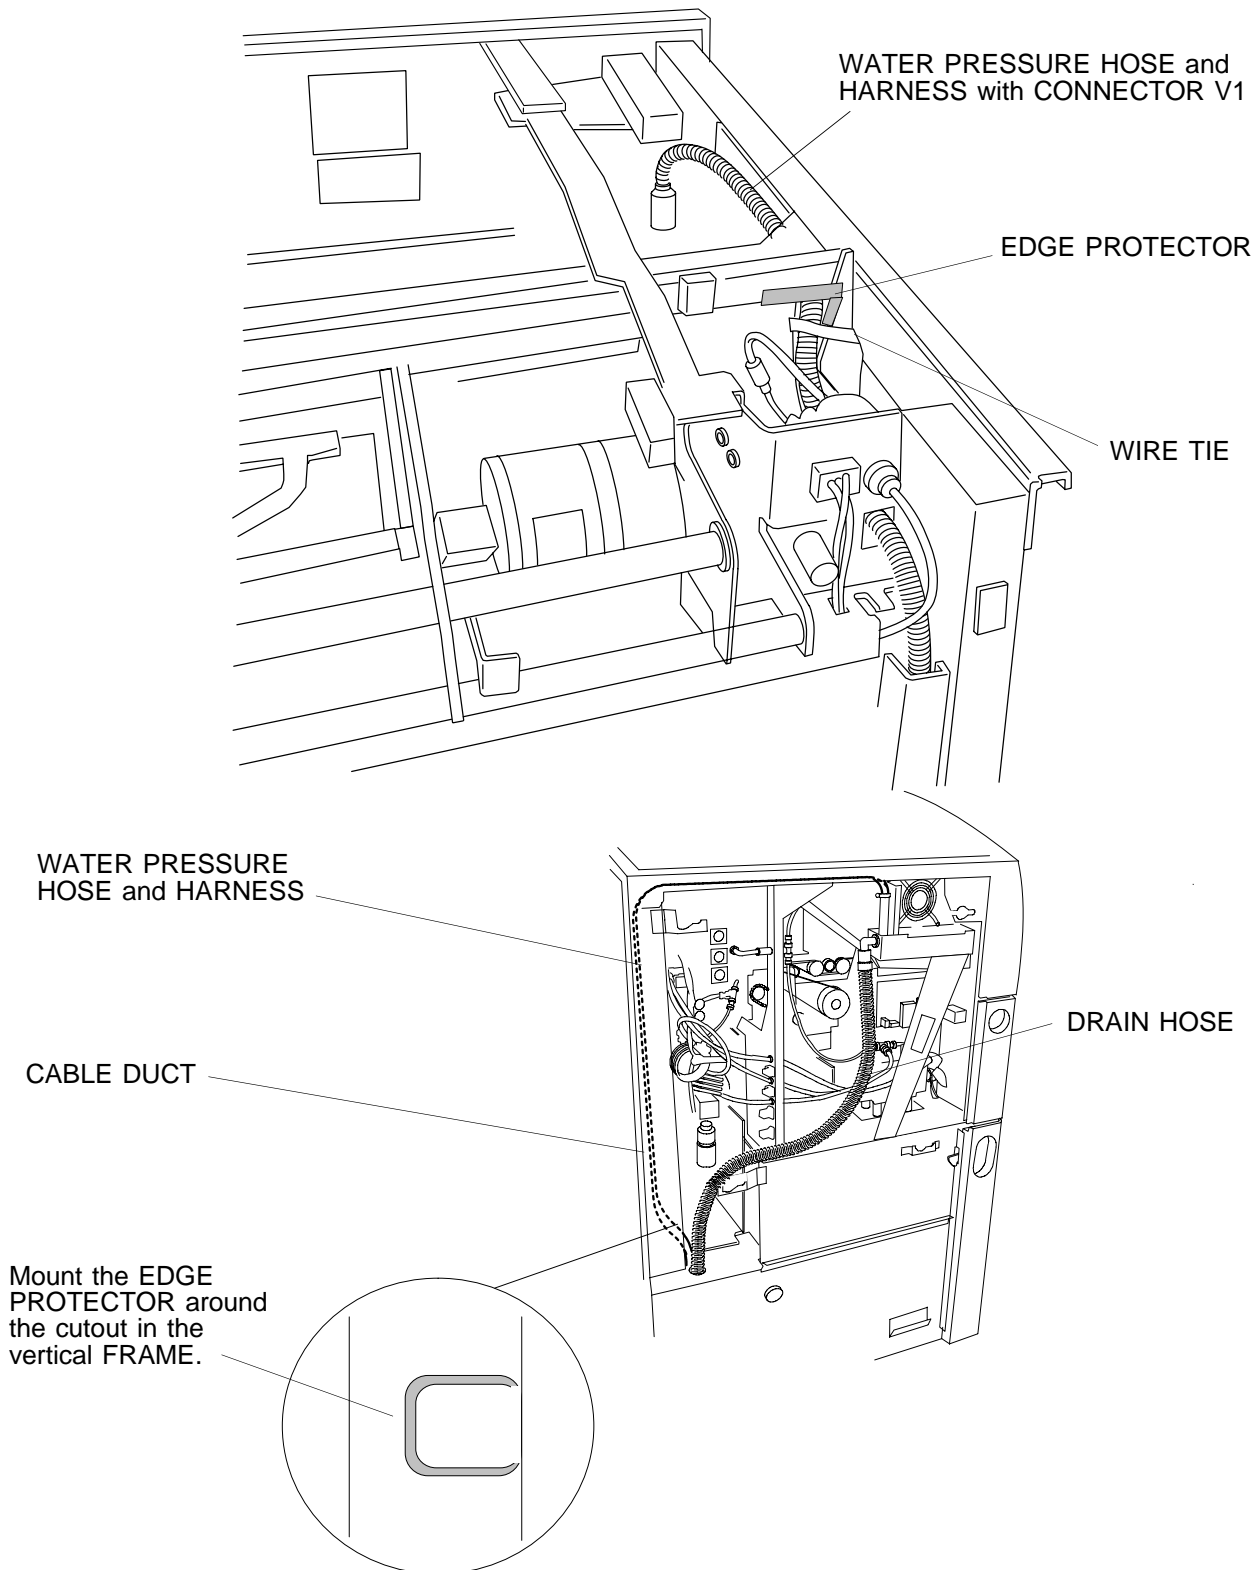

figure 3-9
21. Connect the DRAIN HOSE to the HUMIDIFIER and secure it with a HOSE CLAMP. See figure 3-9 on the previous page.
22. The RESISTOR for the WATER VALVE V1 and the 2 wires (red and black) are in the vertical CABLE DUCT to the right of the FILM CHUTE. Take RESISTOR with black and red WIRES out of the CABLE DUCT and route them through the round hole below the CABLE DUCT. See figure 3-9 on the previous page.